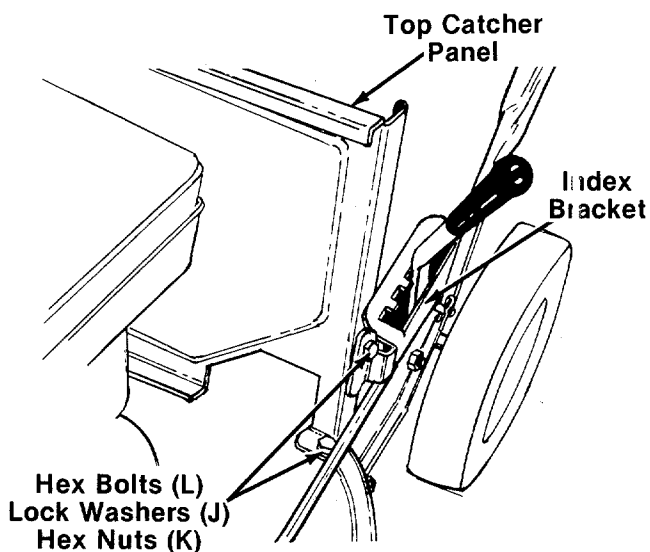

FIGURE 13.
1. Place the top catcher panel in position on the back of the mower as shown in figure 13. The door in the panel should be to the right side of the mower. Secure the bottom of the catcher panel to the mower using two 1/2" long hex bolts (L), lock washers (J) and hex nuts (K), finger tight only. See figure 13.
2. On the left side of the mower, secure the side of the catcher panel to the index bracket using 1/2" long hex bolt (L), lock washer (J) and hex nut (K), finger tight only. See figure 13.